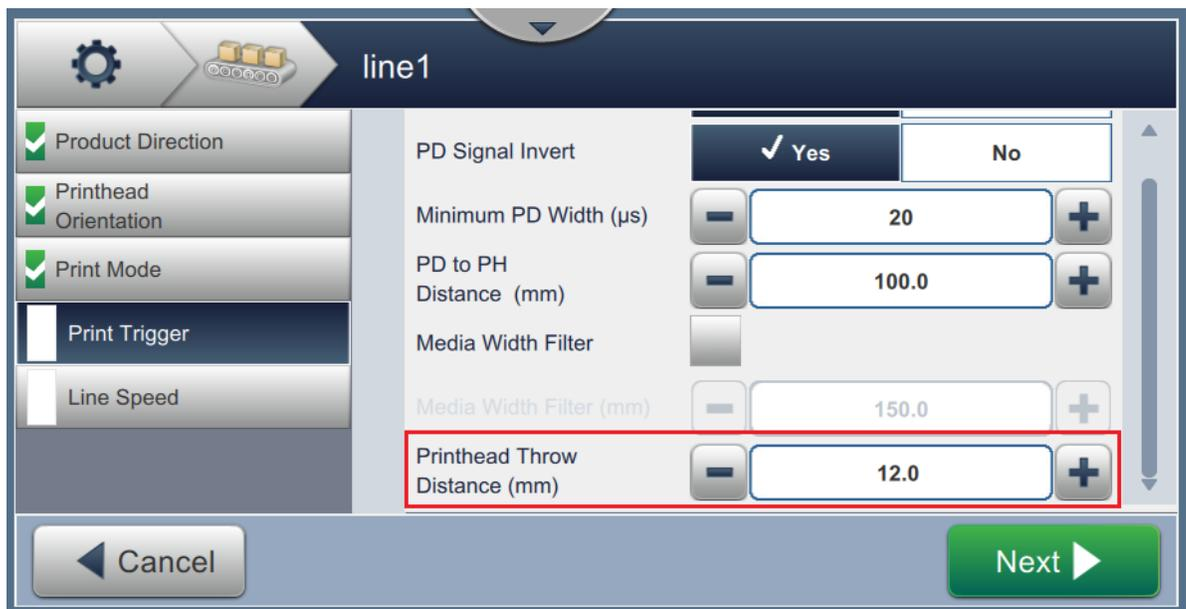

Figure 4-24: Printhead Throw Distance
2. Navigate to *Tools > Line Setup > Print Trigger* and set the required PD Trigger Edge (see Figure 4-24 on page 4-27).